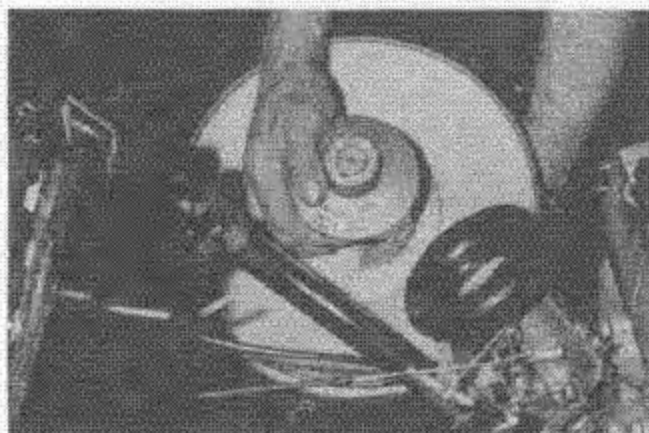

Fig. 52 — Removing or Installing Shaft Assembly
5. Slide shaft assembly out as shown in Fig. 52.
2. Hold assembly together and install into machine as shown in Fig. 52.